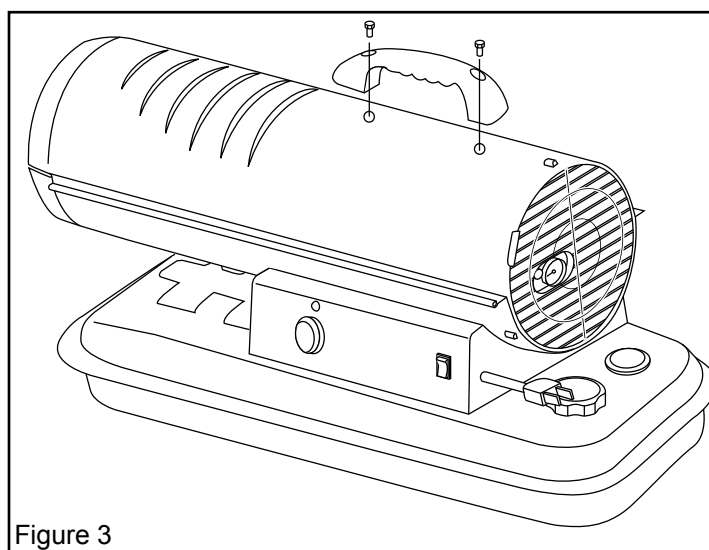

Figure 3
1. Align holes in the upper housing with the 2 holes in the handle as shown in Figure 3.